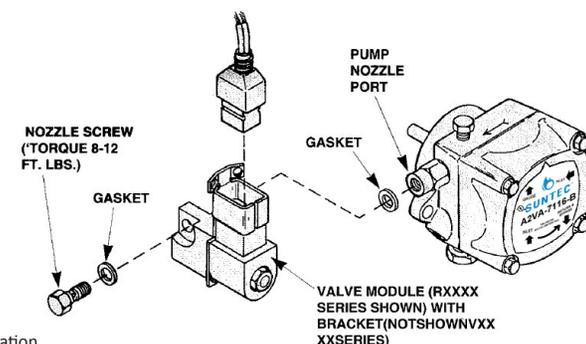

Figure 1 : Valve Installation
#### B. INSTALLATION – R valve (See Figure 1)
2. Rotate valve module as shown in Figure 1 or according to the burner manufacturer's recommendations if applicable.